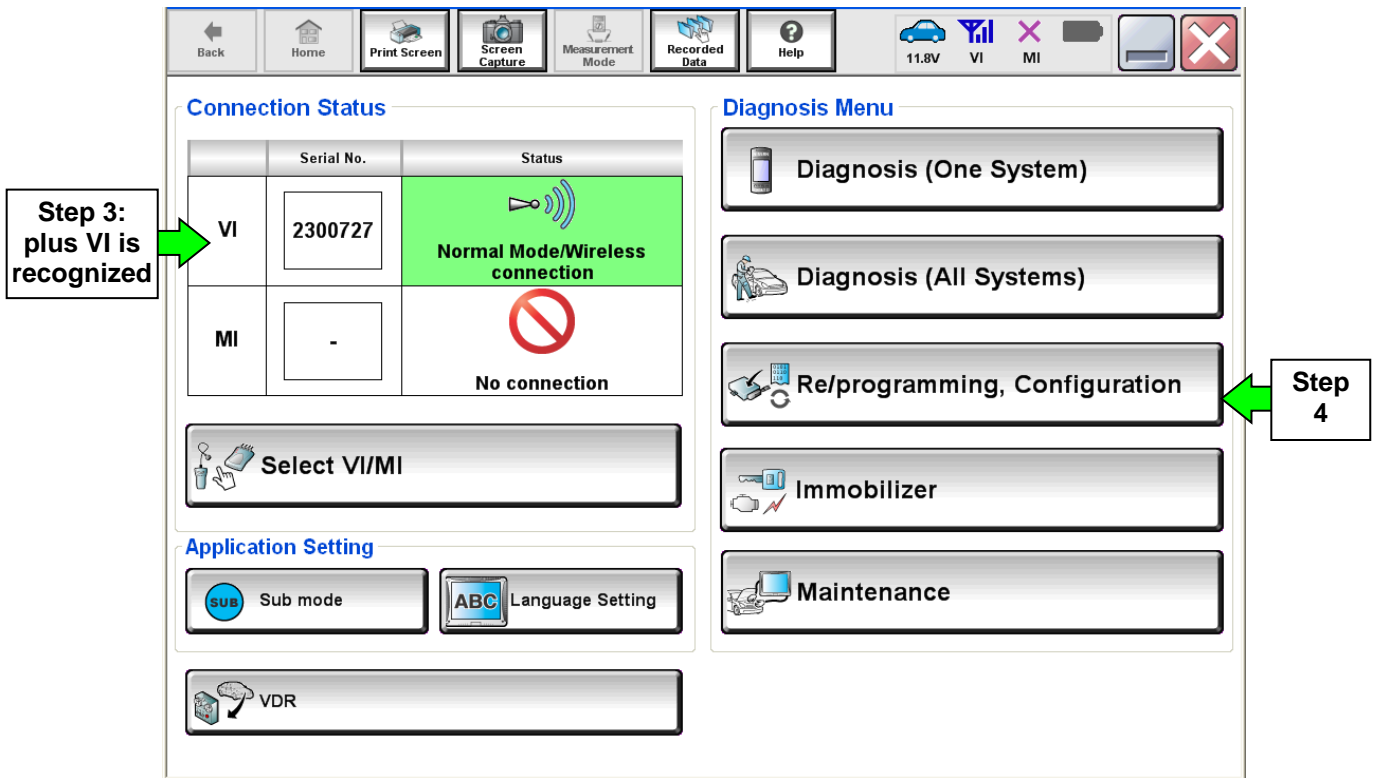

Figure 1
1. Return to the C-III- plus Home screen (see Figure 1, Page 5).